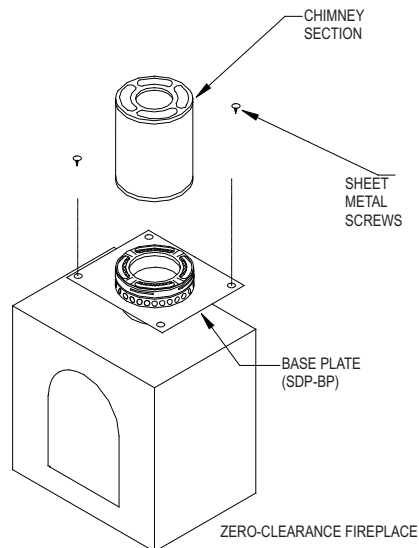

Figure 31
2. Base Plate: Attach a Base Plate to the fireplace top with sheet metal screws. (**Figure 31**). A high temperature sealant may be used if desired.